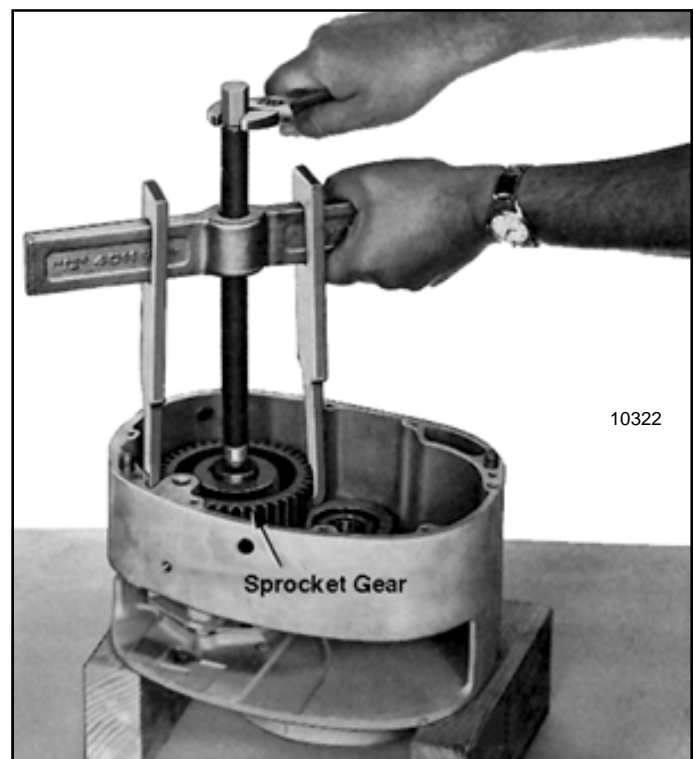

Figure 7-10. Pulling Sprocket Gear from Sprocket Shaft using Common Puller
(1) Remove retaining ring from end of sprocket shaft and pull off sprocket gear using a common puller (fig. 7-10). Remove Woodruff key from shaft.